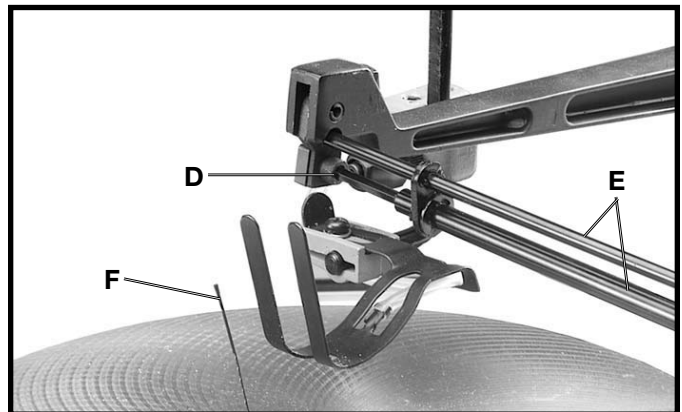

Fig. 15
5. Fig. 15, illustrates the quickset blade changing wrench (E) engaged with the upper blade holder assembly. Turn wrench counterclockwise to loosen screw (D) and remove blade (F) from upper blade holder as shown.